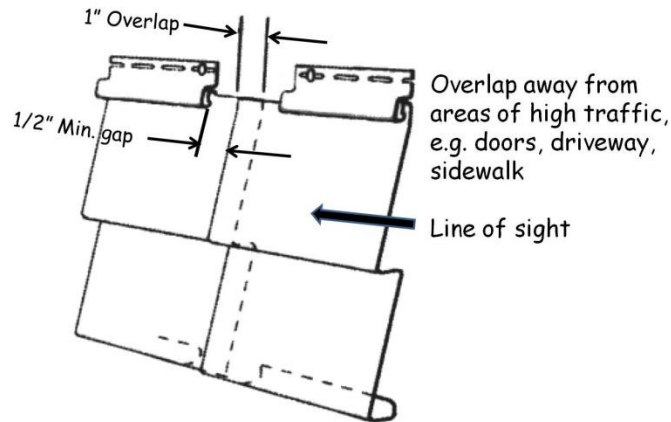

Figure 11-8. Siding Overlap.
2. Install siding with a 1" overlap between pieces and a minimum of ½" space between the top lock of the underlapping piece and the end of the overlapping piece (see Figure 11-8). Maintain a ¼" gap (⅜" when temperatures are below 40° F) at the corners (to allow for expansion) and ends of pieces, including corner posts, J-channel, J-blocks, windows, etc. Overlap the siding pieces such that in high traffic areas one cannot see into the overlapped joint.